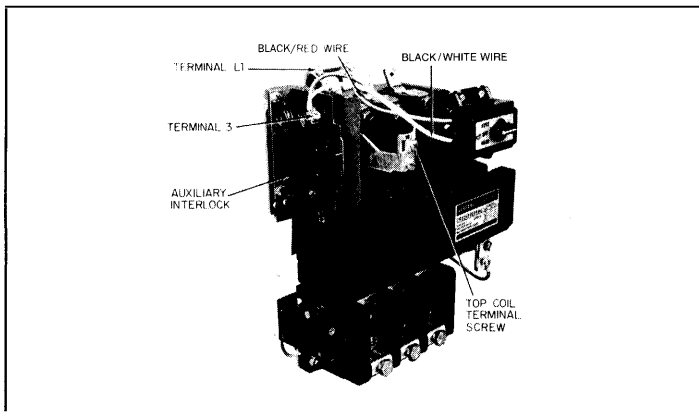

Figure 6.
**CR305X330B H-O-A Selector Switch (Figure 6)**